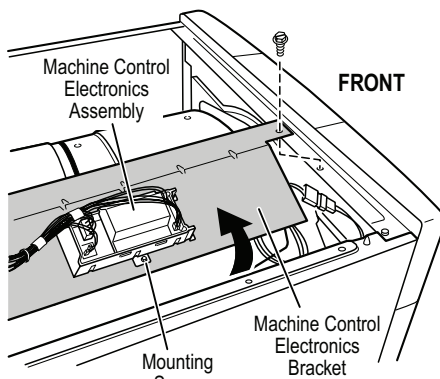

Figure 16. Remove machine control electronics from mounting bracket.
2. Slide the bracket over the top of the drum to access the machine control electronics connectors and mounting screw. See Figure 16.
2. Remove the screw holding the machine control electronics assembly to the mounting bracket. See Figure 16.